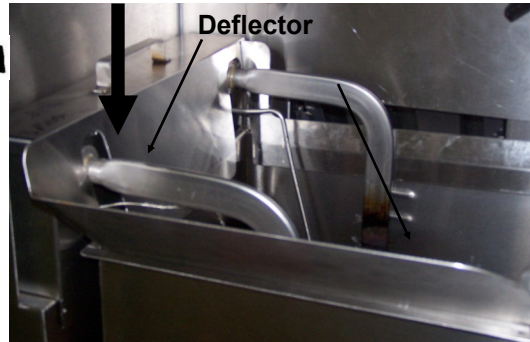

fig. 8
11. Place the deflector over the heating element and onto the oil pot (fig. 8).